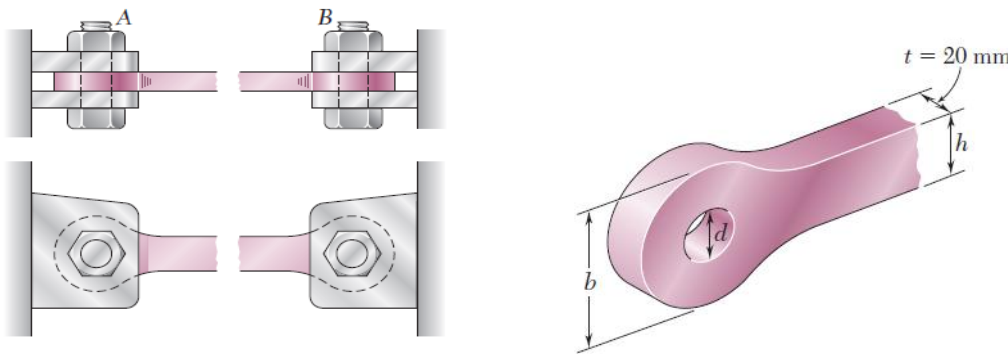

Fig 1
- a. The steel tie bar shown in Fig 1 is to be designed to carry a tension force of magnitude  $P = 120 \text{ MPa}$  when bolted between double brackets at  $A$  and  $B$ . The bar will be fabricated from 20-mm-thick plate stock. For the grade of steel to be used, the maximum allowable stresses are: normal stress = 175 MPa, shearing stress = 100 MPa and bearing stress = 350 MPa